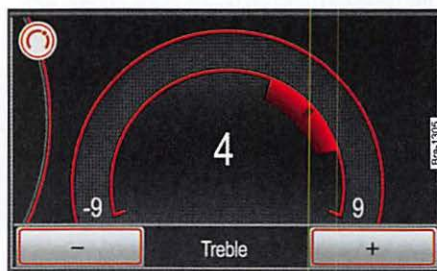

Fig. 84 Settings menu for tone pitch.
- Press the **[Treble]**, **[Mid-range]** or **[Bass]** function button in order to open a settings menu for the adjustment of the "pitch" ⇒ fig. 84.